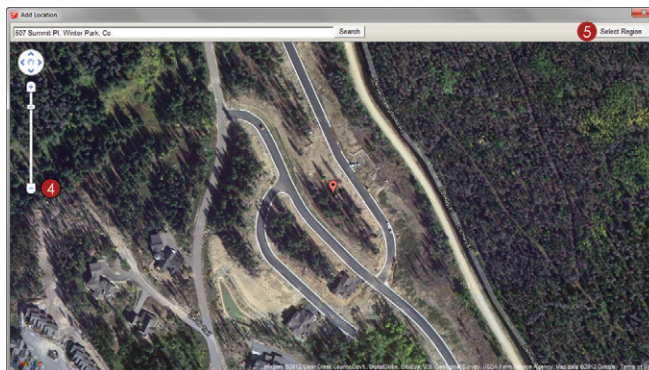

Figure 15.4 Extents of the example site
4. Zoom out two to three clicks so you can see more of the site as shown in Figure 15.4.